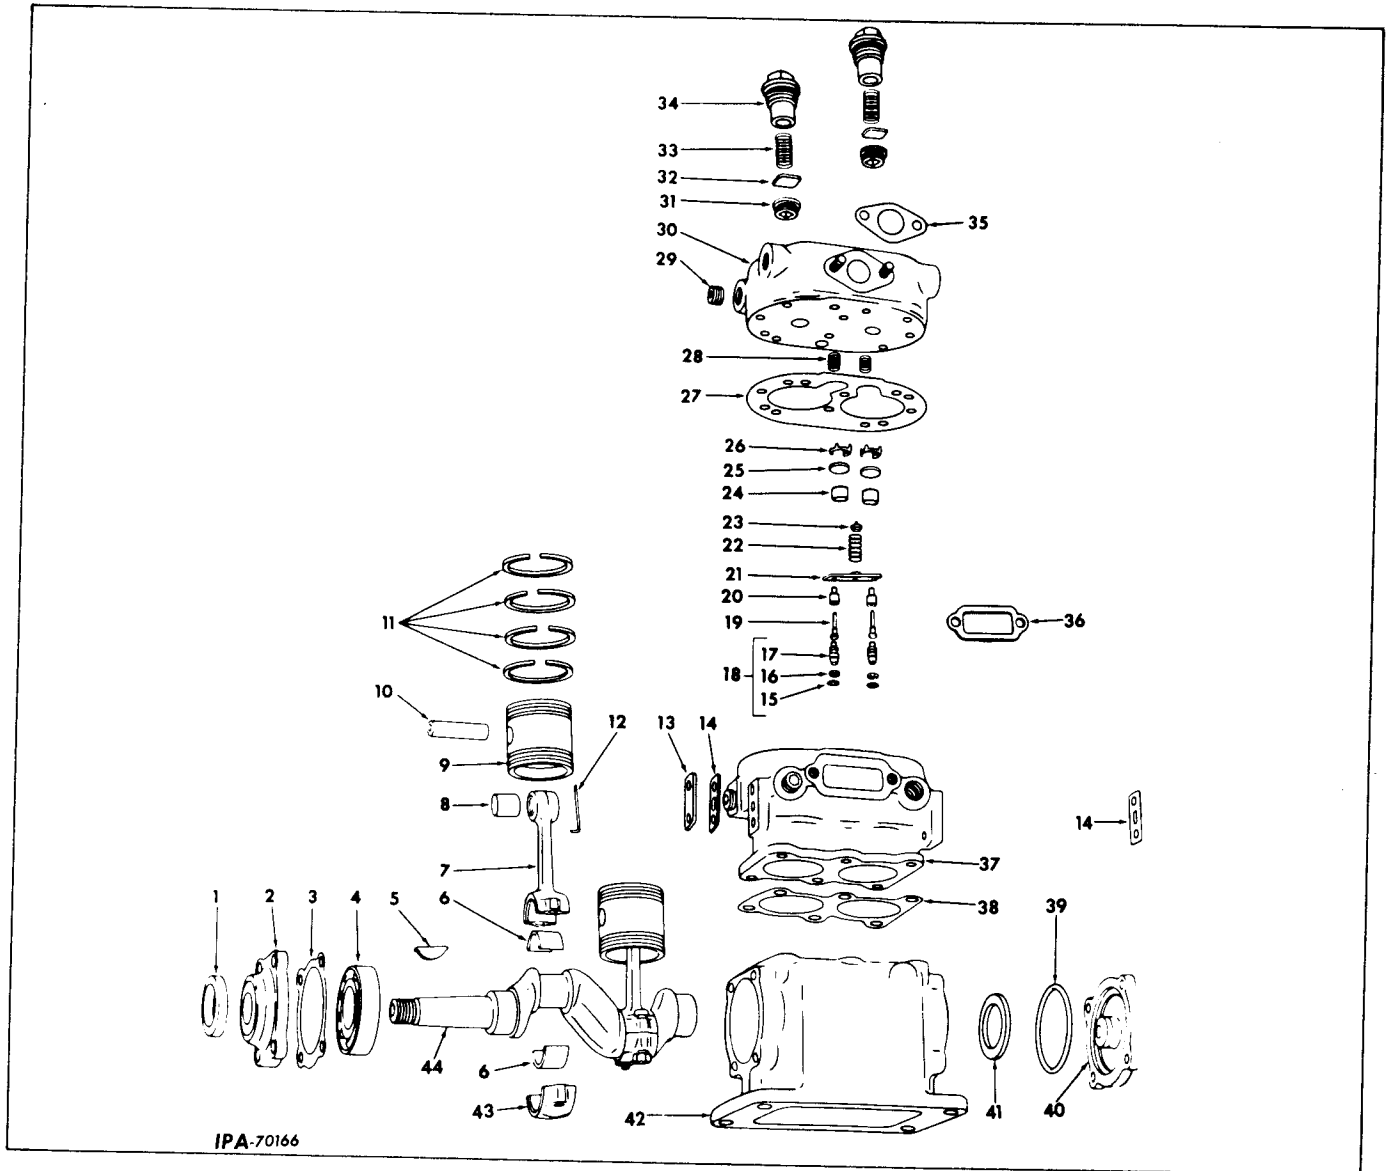

Figure 13-79
Remove the piston rings (11, Fig. 13-79) from each piston. If the pistons are to be removed from the connecting rods, remove the wrist pin lock wire (12) and press the wrist pin out of the piston and connecting rod.
Place a new cylinder block gasket (38, Fig. 13-79) in position on the crankcase. Position the cylinder block on the crankcase according to marking made prior to disassembly. Install cap screws and tighten securely.